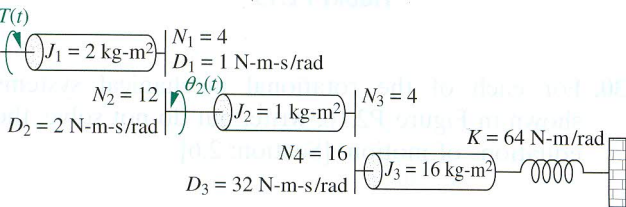

FIGURE P2.19
33. For the rotational system shown in Figure P2.19, find the transfer function,  $G(s) = \theta_2(s)/T(s)$ . [Section: 2.7]